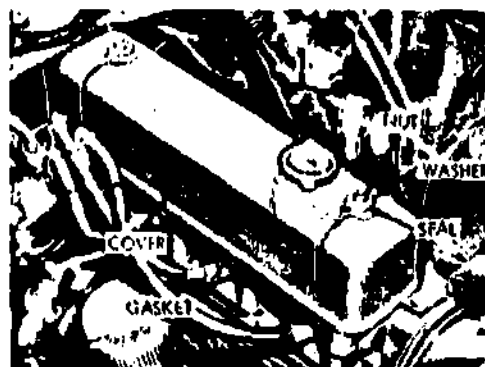

Fig 2-7. Valve cover.
- (3) Check for valve cover gasket leaking; tightening too much may warp the cover, causing a bad seal. Give the oil filter a good look to make sure it is not leaking (fig 2-7).